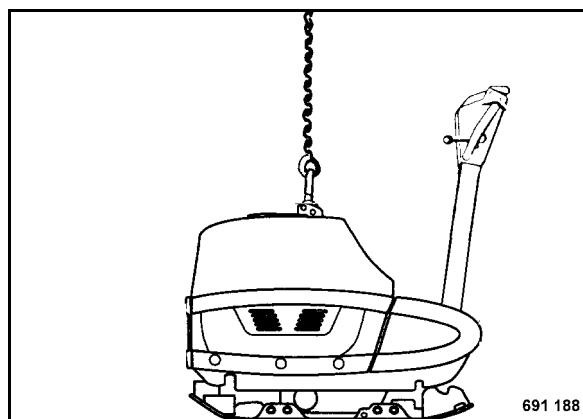

Fig. 37
- Always attach the lifting tackle to the lifting eye to load the vibratory plate (Fig. 37) on a transport vehicle.